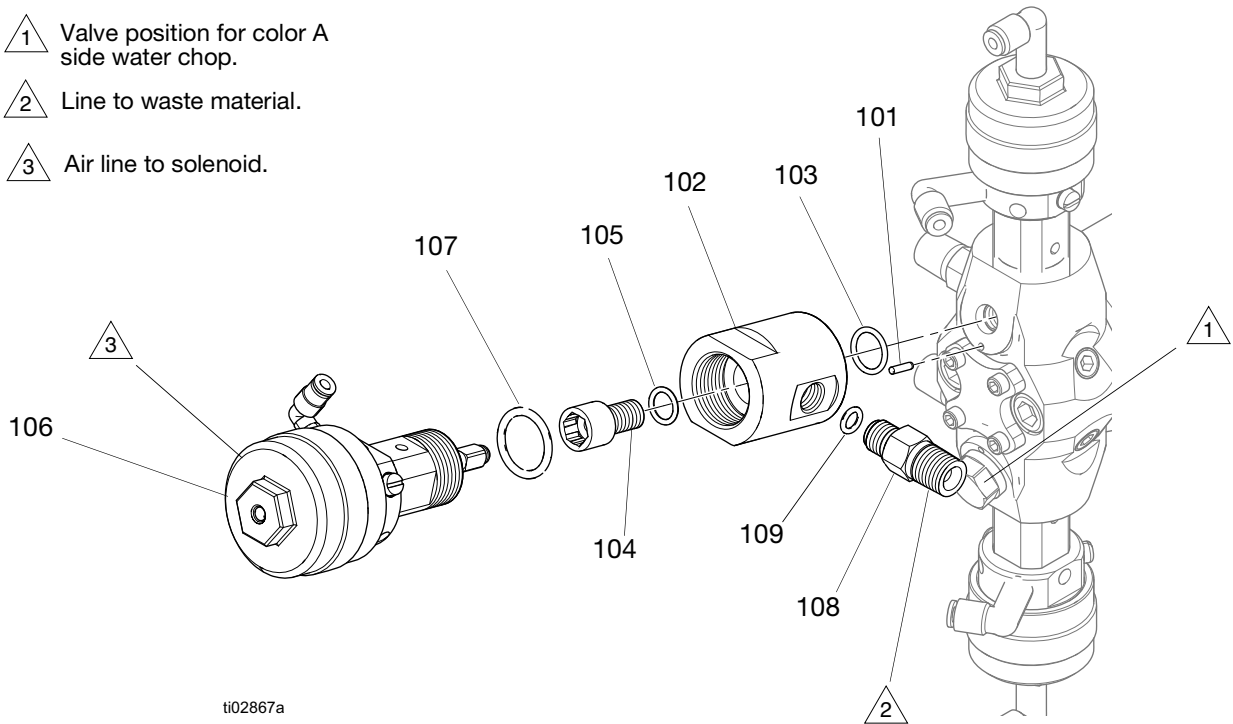

FIG. 4
7. Install the dowel pin (101) into the mix manifold, as shown in FIG. 4.
8. Install the assembled mix manifold sampling valve fitting (102), with o-ring (103) and fluid manifold fitting (108), over the dowel pin (101).
- NOTE:** The dowel pin (101) is for location only, and cannot withstand high torque. Support the mix manifold sampling valve fitting (102) with a wrench while tightening.
9. Using a 10 mm hex key, install the manifold bolt (104) with o-ring (105) into the mix manifold sampling valve fitting (102).
10. Install the ptfe o-ring (107) onto the dispense valve (106)
11. Screw the dispense valve (106) into the mix manifold sampling valve fitting (102), and tighten using the flats of the dispense valve and mix manifold sampling valve fitting.